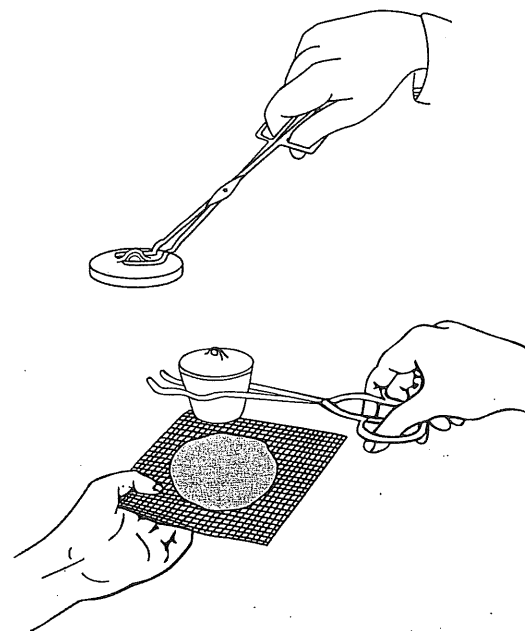

Figure 2.
3. Using tongs to handle the crucible (see Figure 2), measure the mass of a clean, dry empty crucible and its lid to the nearest 0.01 g. Record the mass in the data table.
13. Using tongs, remove the crucible lid and place it on a wire gauze on the bench top. With the tongs, remove the crucible from the clay triangle and place it on the wire gauze as well. (See Figure 2.)